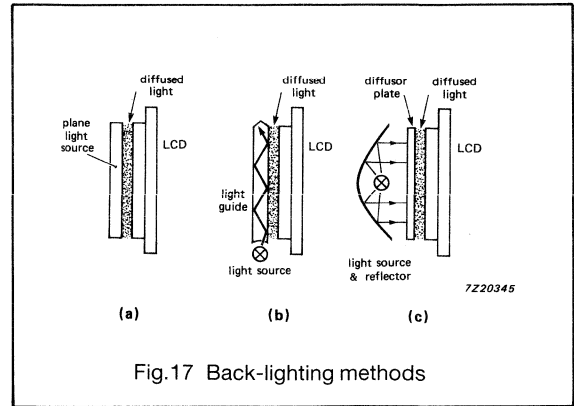

Fig.17 Back-lighting methods
- electro-luminescent light source; has the advantage that it is very thin and emits a diffuse and evenly distributed light; however, its luminance is low, it requires a supply of 100 to 200 V at a few hundred Hz and it has a limited life (Fig. 17(a))
- light guide; a point source such as an LED or a linear source such as a fluorescent tube is distributed by a light guide using total reflection; its construction can be flat so little space is required behind the LCD; however, uniform light distribution can be difficult to obtain and light loss can be considerable (Fig. 17(b))
- light box; an LED, halogen or fluorescent light is distributed by a light box; this light source is very effective but needs considerable space immediately behind the display (Fig. 17(c)).